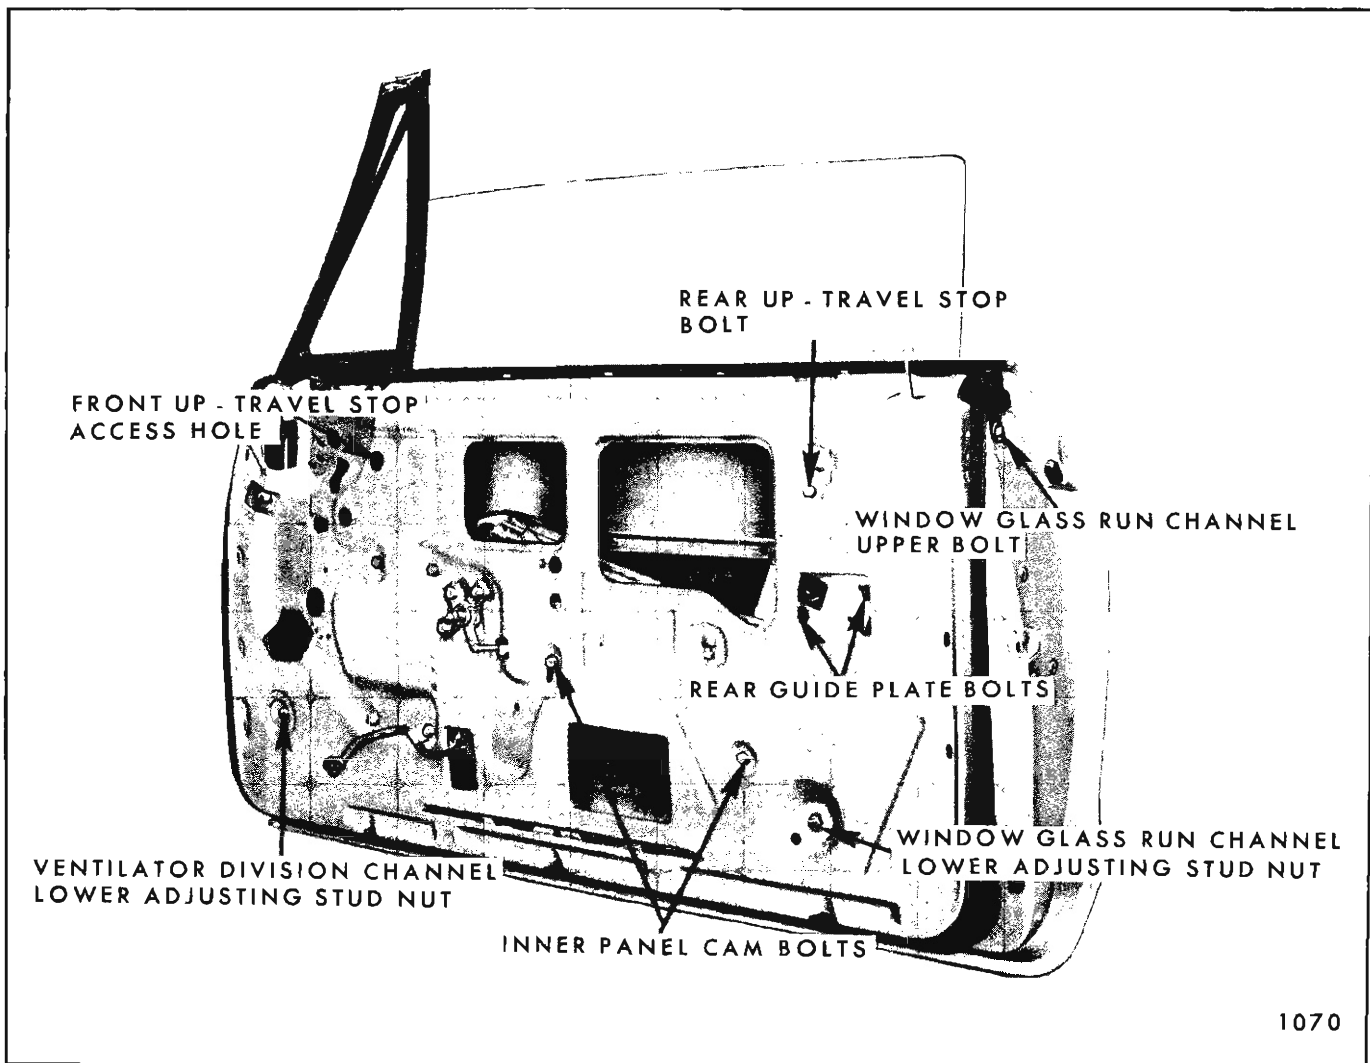

Fig. 1D40—Front Door Hardware Attachment "67" Style
1. To correct a rotated window condition (glass cocked in opening) loosen inner panel cam attaching bolts (Fig. 1D40). Adjust forward end of cam up-or-down as required and tighten bolts.
2. To adjust the top of the window in-or-out in relation to side roof rail weatherstrip on coupe styles, loosen ventilator division channel lower adjusting stud nut and window run channel lower adjusting stud nut (Fig. 1D40). Adjust studs in-or-out as required and tighten stud nuts.
3. To adjust top of window in-or-out in relation to side roof rail weatherstrip on sedan styles, loosen ventilator division channel lower adjusting stud nut and window run channel lower attaching bolt (Fig. 1D39). Adjust division channel stud as required and tighten stud nut. Position lower end of run channel in-or-out as required and tighten attaching bolt.